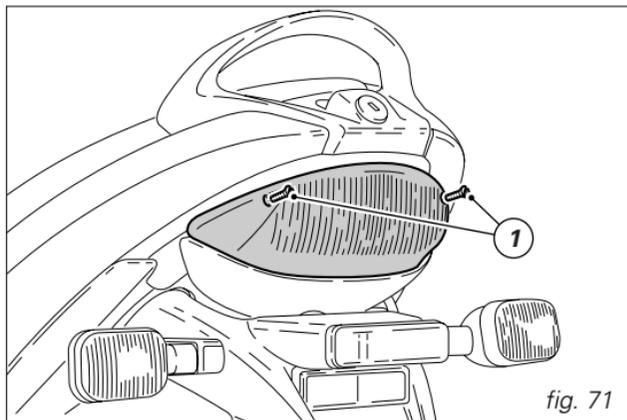
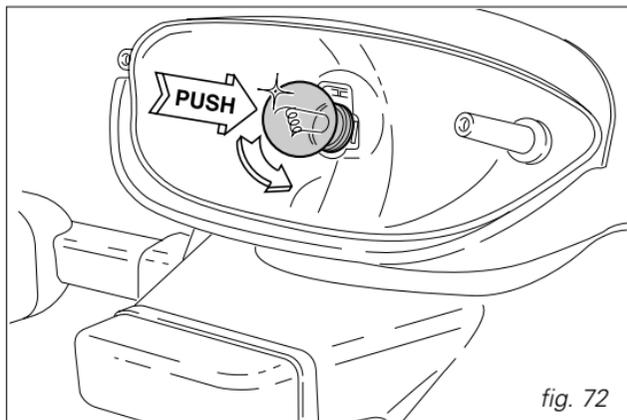

fig. 71
fig. 72
To replace the stop and parking light bulb, unscrew the two screws (1, fig. 71) that secure the glass and remove glass. The bulb is of the banjo-type: press and rotate anti-clockwise to remove; fit the spare bulb by pressing and turning clockwise until it clicks (fig. 72). Refit the glass and tighten the screws (1).